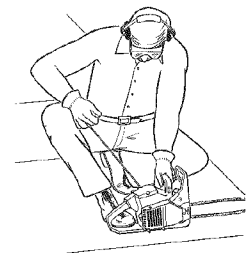

Fig. 9
4. **Do not touch the throttle control trigger.** Place the unit on a firm, flat surface. Crouch in the starting position and hold the unit firmly, as shown (Fig. 9). Grip the front handle with the left hand and put the right foot in the boot loop.